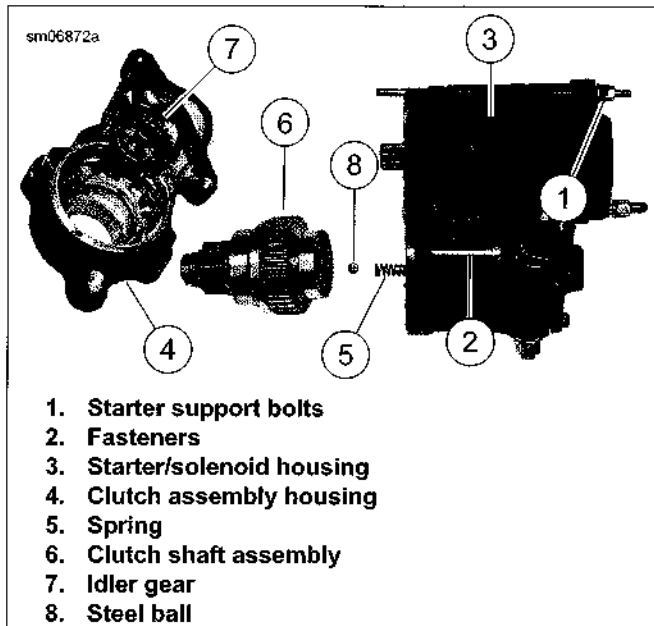

Figure 6-23. Starter Drive Housing and Clutch Shaft
1. See Figure 6-23. Loosen the two long starter support bolts (1).
2. Remove the two fasteners (2) and separate the clutch assembly housing (4) from the starter/solenoid housing (3).
3. Save the spring (5) from the solenoid plunger shaft.